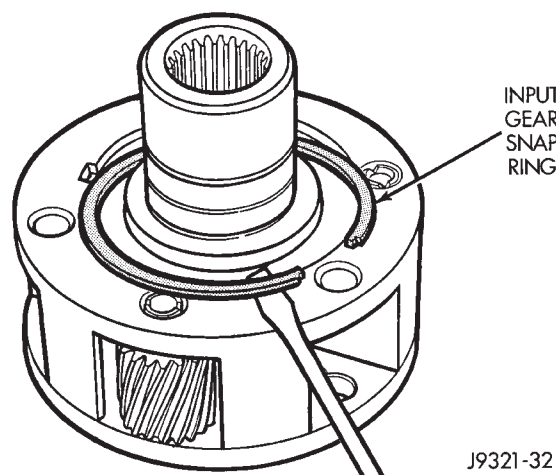

Fig. 65 Input Gear Snap Ring Installation
(7) Install snap ring on input gear shaft to secure gear in bearing and case (Fig. 65).